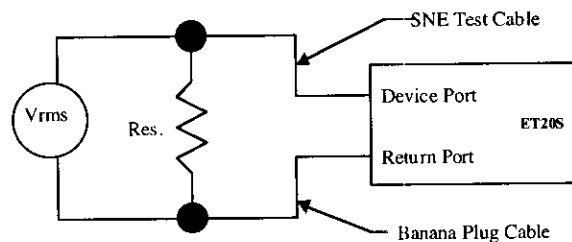

Figure 17: True RMS Voltmeter connection diagram
7. Connect the True RMS Voltmeter across the resistor (Figure 17).